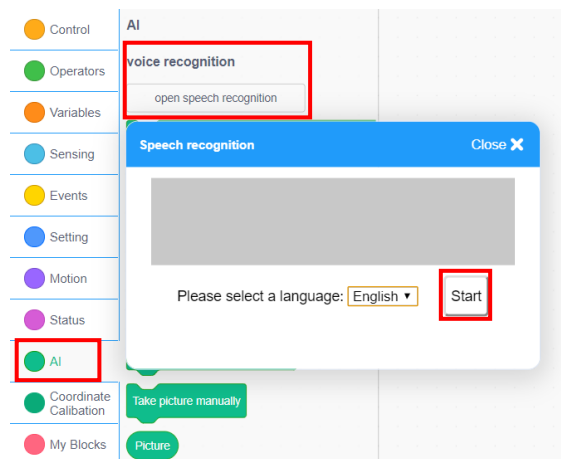

Figure 5.11 Recording the voice
Step 5: Check whether the speech recognition module works. Select the speech recognition module in the AI module, click the **Open speech recognition** button, and then click **Start**, as shown in Figure 5.11.